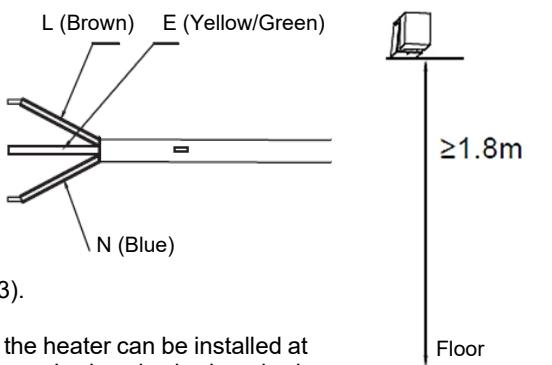

FIG 3
3. Install the supply socket in the wall. The requirements for the socket are as follows: 250V/10A, single phase, three electrodes. It is recommended to place the socket on the right above the heater. The height of the socket to the ground shall not be less than 1.8m (see Fig.3).